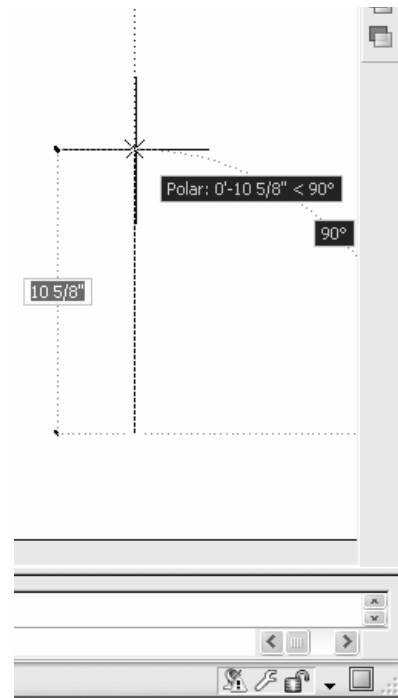

Figure 2-1.12 Drawing another line with the help of Polar Tracking
20. Move the crosshairs (i.e., mouse) straight up from your first point so that *Polar Tracking* activates. (Figure 2-1.12)